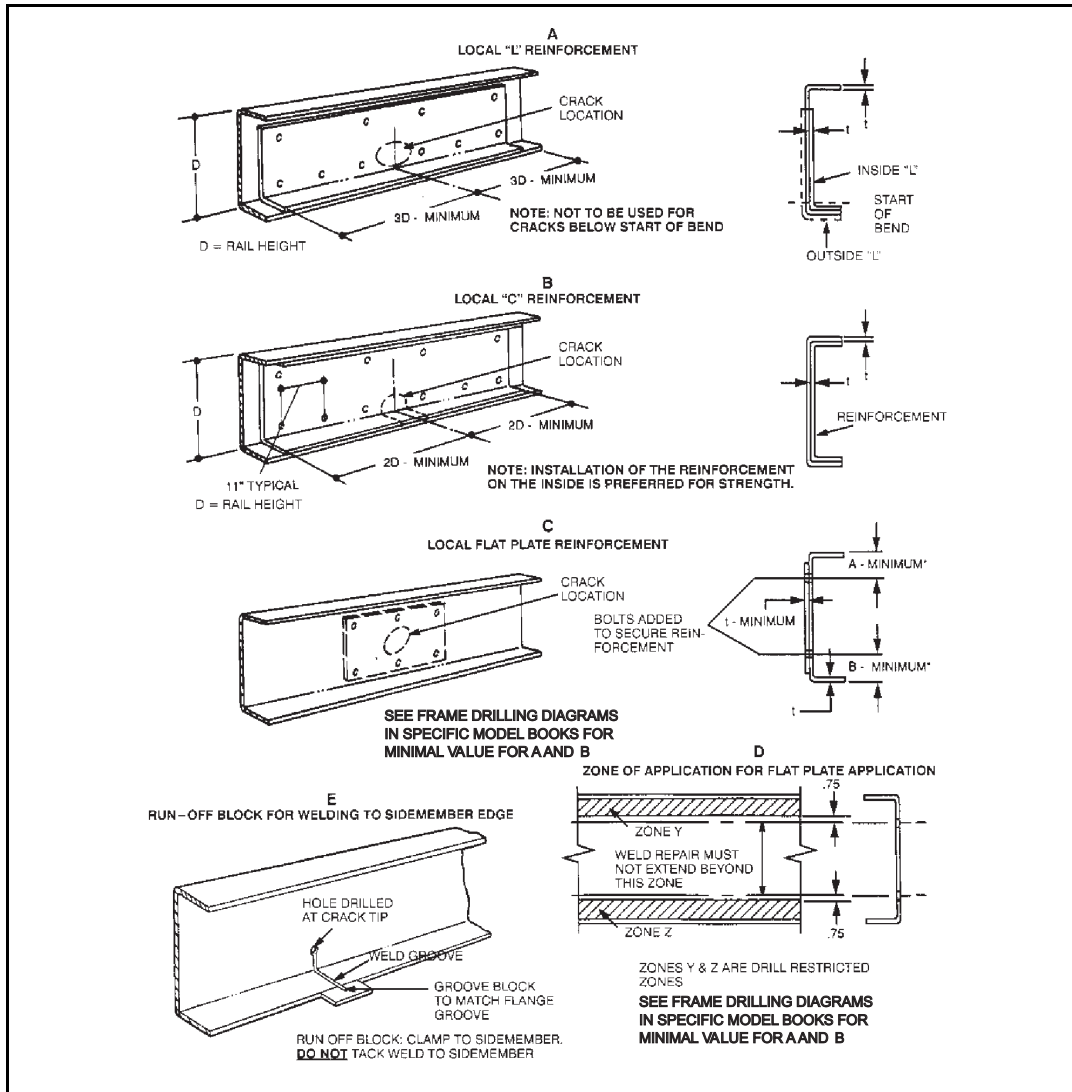

Figure 2.5 Reinforcement Application
Steps 1 and 2 above also apply to the full length “L” reinforcements available from IC Bus™. All of these are the inverted “L” type and are designed for installation on the outside of the sidemember section (except 9000 Series) (Figure 2.5).
This type of reinforcement must be custom-fabricated either by cutting lengths from “full length” reinforcements or by forming from flat stock (Figure 2.5).
2. Figure 2.5 gives recommended dimensional data and attachment specifications for a typical installation. Holes drilled for the attachment must be within the frame drilling guidelines in the specific model body builder book.
This type of reinforcement is recommended for cases in which the weld repair is confined to the web of the section but extends beyond the application zone of the flat plate reinforcements shown in Figure 2.5.
1. Figure 2.5 shows a typical installation for an “L” reinforcement on the inside of a sidemember section along with minimum recommended dimensions.
This reinforcement is intended for the less critical, web portion of the sidemember section where typical cracking is due to local stresses which tend to “diaphragm” or “dish” the web without creating appreciable stresses for overall bending of the section. Typical crack patterns radiate out from the edge of a mounting bracket or crossmember or from a hole in the web. Cracks which radiate from a web hole occupied by a fastener are frequently an indication of a defective joint, whether by the loosening of the fastener or poor joint design (Figure 2.5).
The flat plate reinforcements are recommended for weld repairs in which the weld does not extend beyond the zone defined in (Figure 2.5).
1. A typical installation is shown in Figure 2.5. The length and height of the plate will vary with the size of the weld repair area. In general it should be such that it will accommodate an array of reinforcement attachment bolts at a typical 3 to 5 inch (76 to 127 mm) spacing all around the weld repair area.